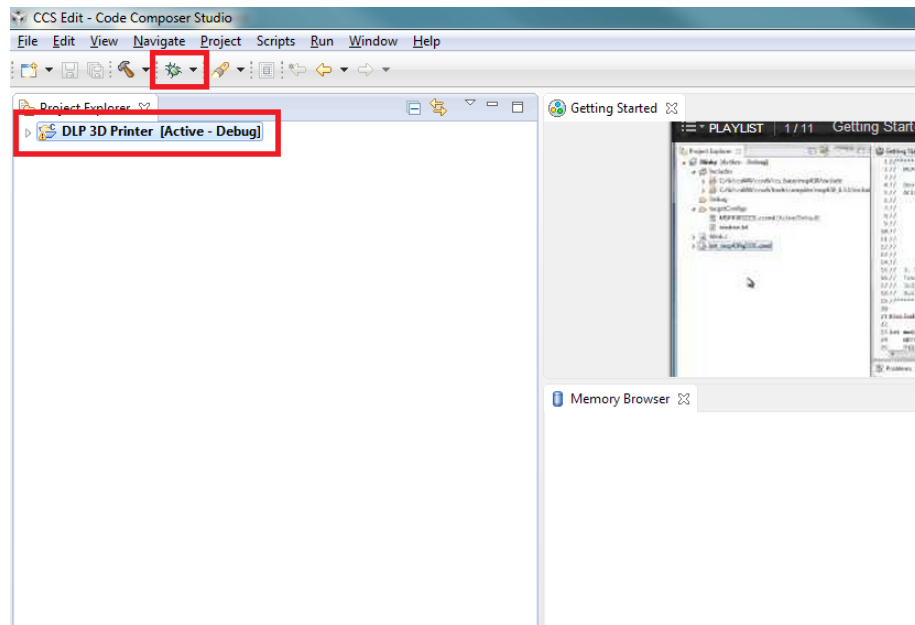

Figure 3-6. Uploading the DLP 3D Printer Firmware To The MSTP Cape
9. The project *DLP 3D Printer* will display as **Active** in the *Project Explorer* window, as shown in Figure 3-6. Click the **start debug** button in the toolbar, also shown in Figure 3-6.